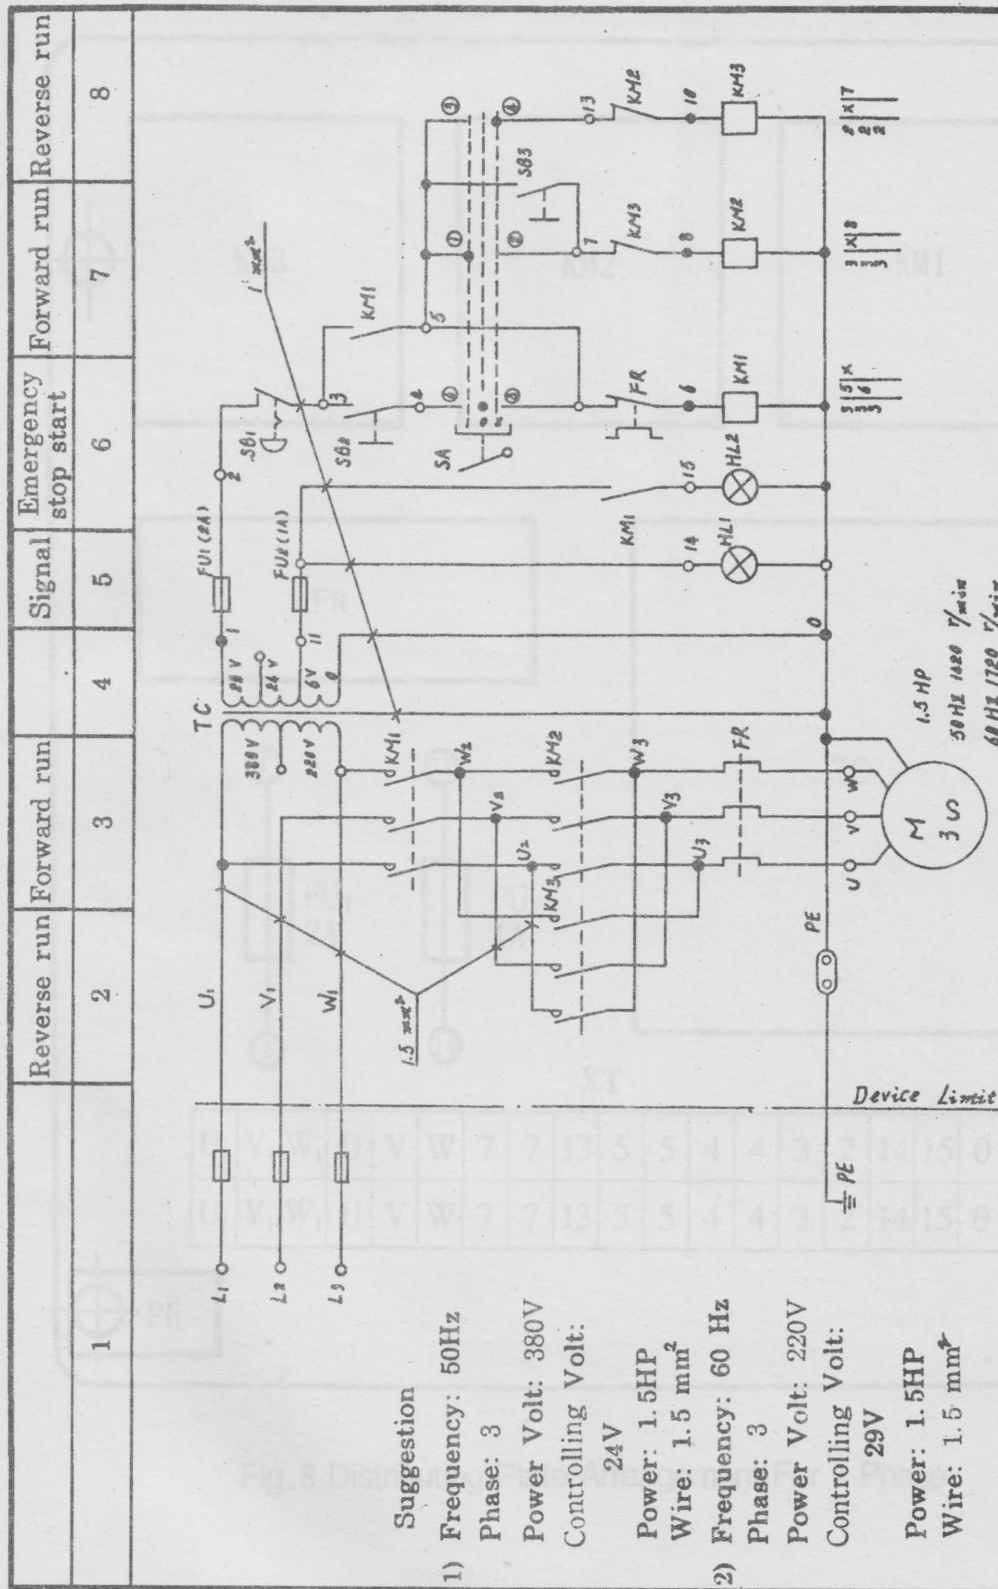

Fig. 7 Wiring Diagram For 3 Phase
The standard lathes are wired for 3 phase 60 & 50 Cycle (See Fig. 7) or for 110v/220v 1 phase 60 cycle (See Fig. 10) according to order. For connection to 110v/220v, please see Fig. 16 transferring connection.
- \* The standard lathe are wired for 220v/380v 3 phase 60 & 50 Cycle [See Fig. 7] or for 110v/220v 1 phase 60 & 50 cycle (See Fig.10) according to order. For connection to motor (1 phase. 110v/220v). please see Fig.14 transferring connection diagram.